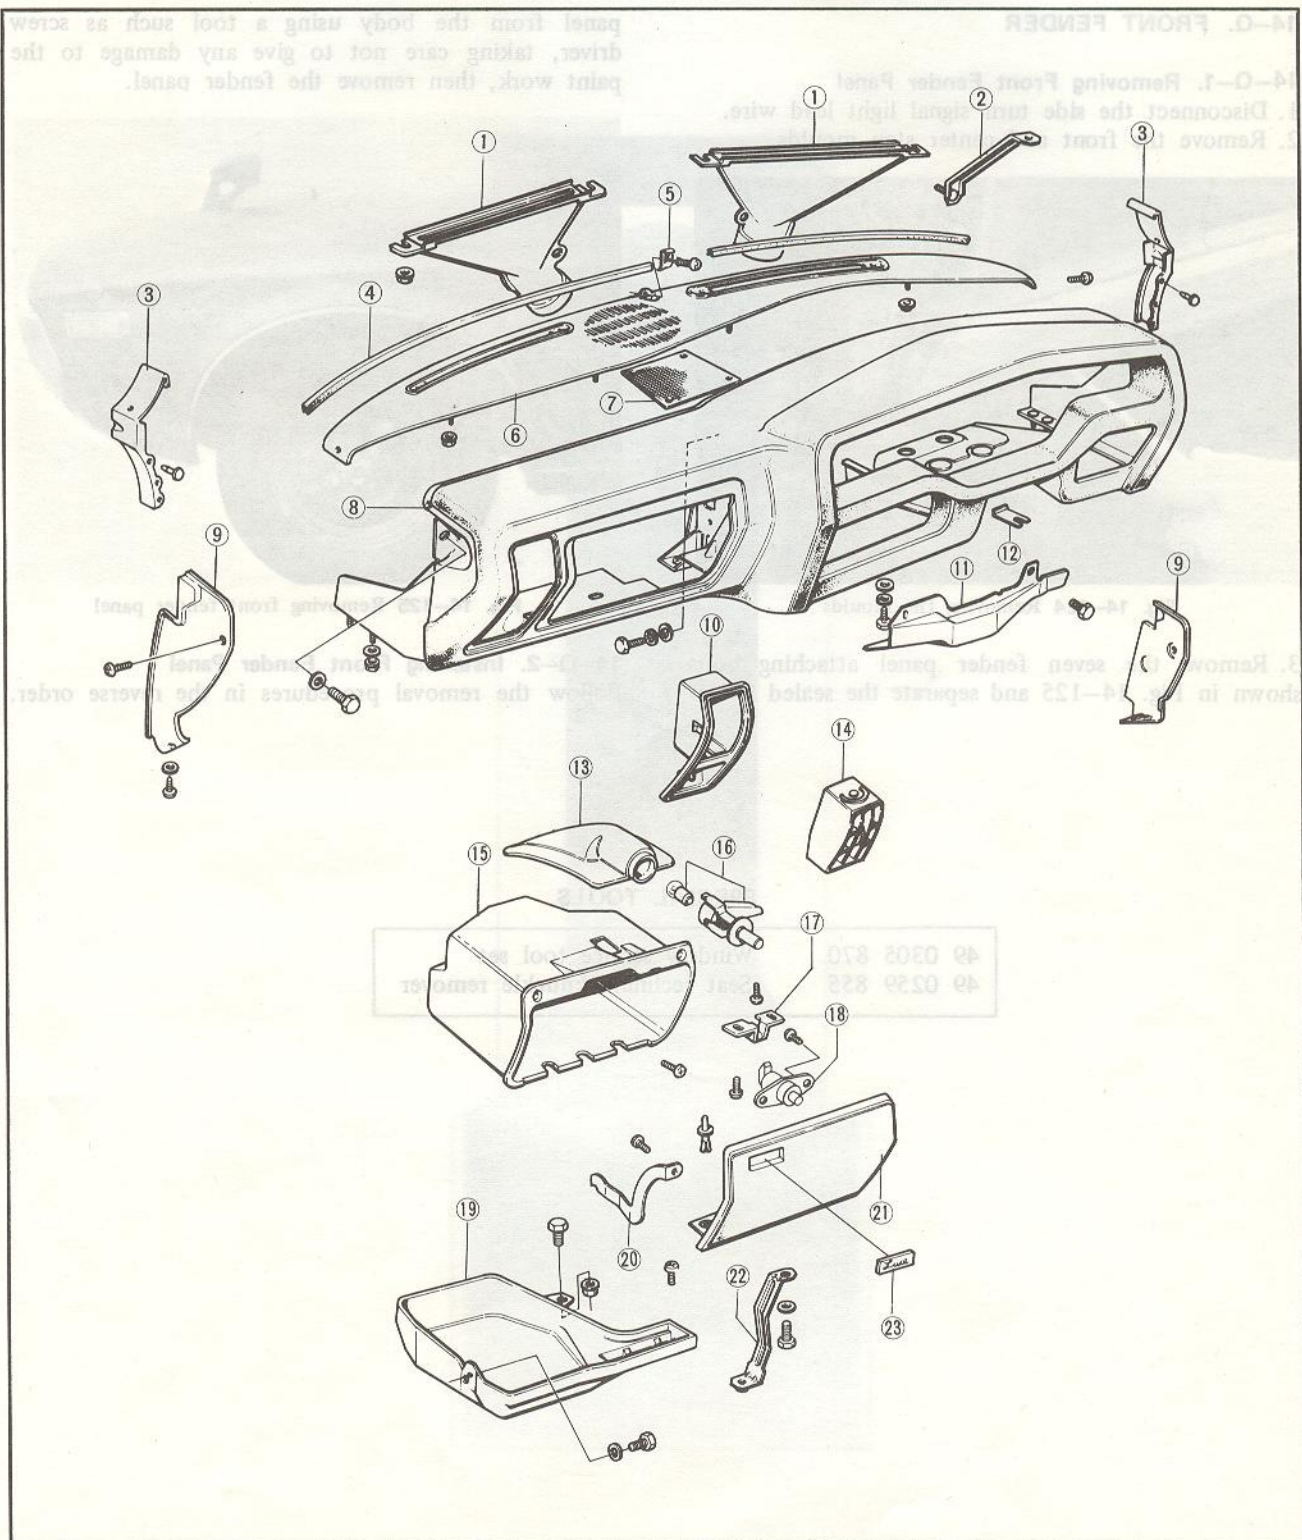

Fig. 14-123 Instrument panel component (cockpit type)
- Fig. 14-123 Instrument panel component (cockpit type)